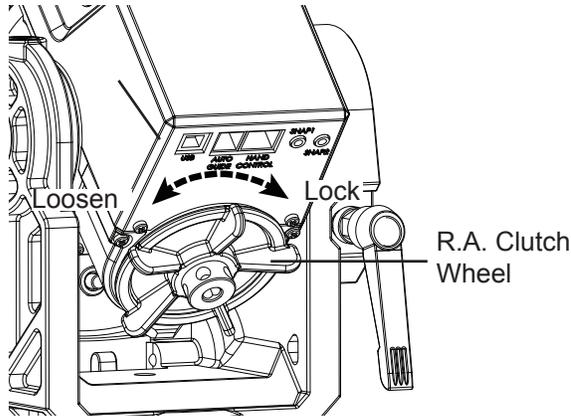

Fig. 2.1a
1. Release the R.A. clutch wheel to manually rotate the R.A. Axis (Fig. 2.1a).